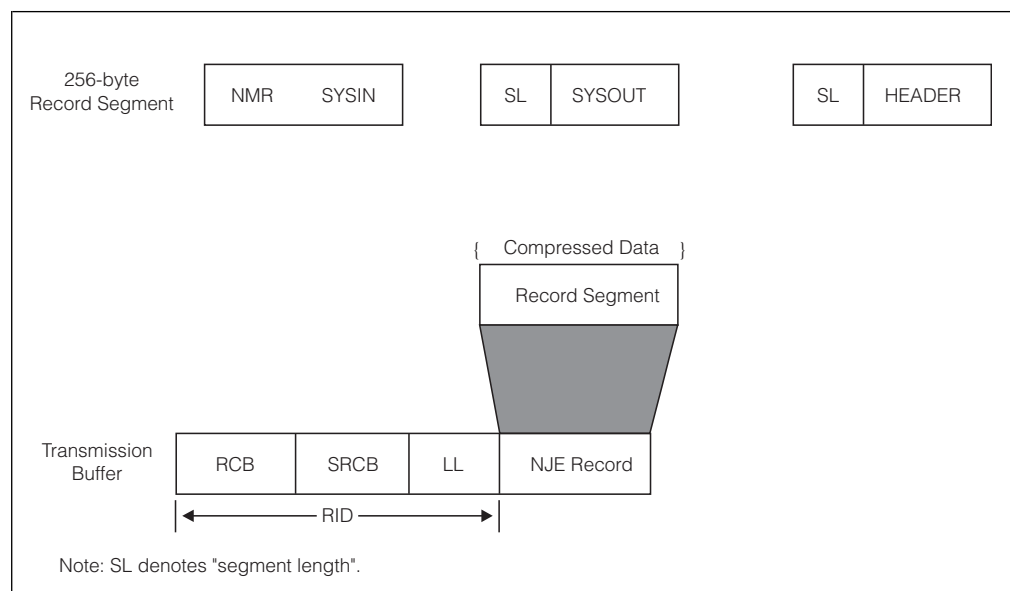

Figure 9. Format of a transmission buffer for SNA protocol
After the data in the NJE record is compressed, including the record identifier (RID), it is placed in the transmission buffer. A transmission buffer for SNA protocols is also called a request unit (RU). There is no control information placed before the first transmission NJE record. Figure 9 illustrates the format of a transmission buffer to be transmitted using the SNA protocol.